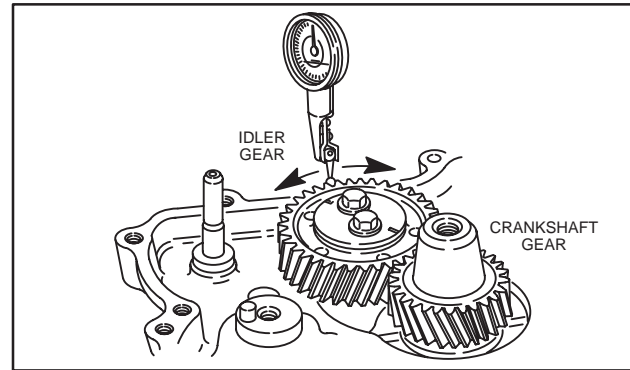

Fig. 6 – Checking Idler Gear Backlash
1. Check gear back lash between idler gear and crankshaft gear using dial indicator as shown in Fig. 6.